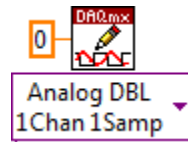

Figure 28. The second DAQmx Write writes a zero to the buffer to make sure the fan turns off when the VI is stopped.
9. Wire the 0 constant next to the second DAQmx Write VI as seen in Figure 28.